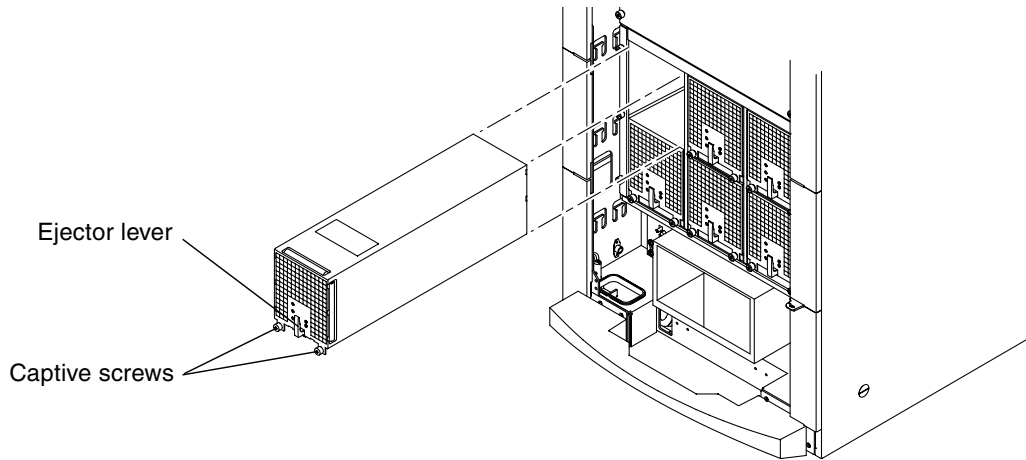

FIGURE 4-6 Removing or Replacing a Power Supply—Sun Fire 6800 System
3. Loosen the two captive screws (FIGURE 4-6).
2. Slide the power supply into the slot (FIGURE 4-6).